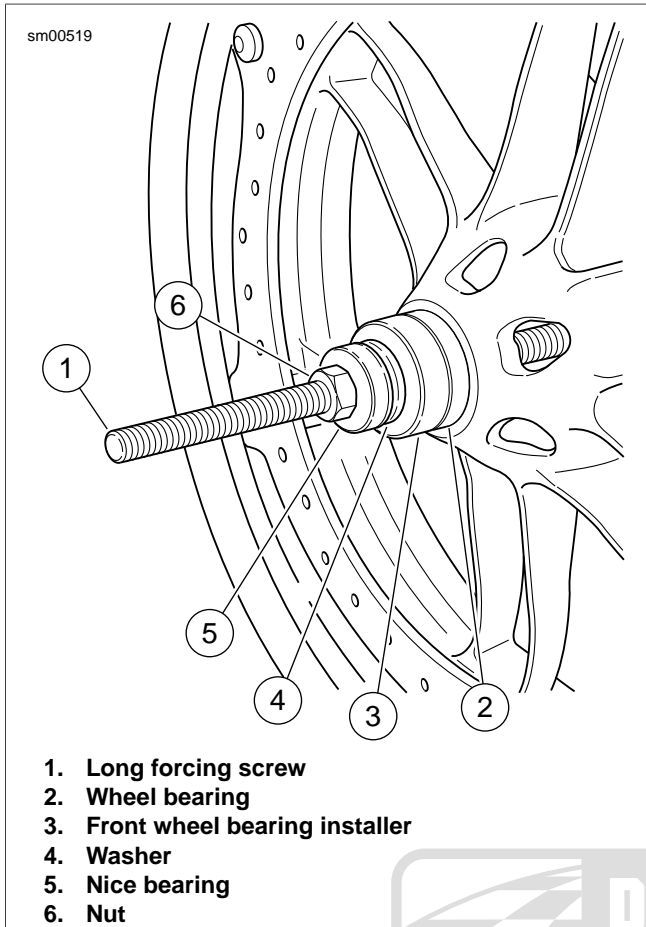

Figure 2-12. Installing Wheel Bearings
- See Figure 2-12. Sparingly apply EXTREME PRESSURE LUBRICANT (Part No. J-23444-A) to the threads of the long forcing screw (1) to prolong service life and verify smooth operation.